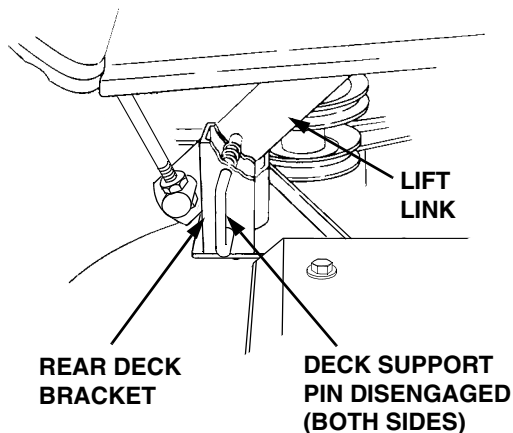

Figure 46
7. Pull the deck support pins outward, turn downward and release so both spring-loaded pins are held in the disengaged position against the outer surface of the deck brackets (Refer to Figure 46).